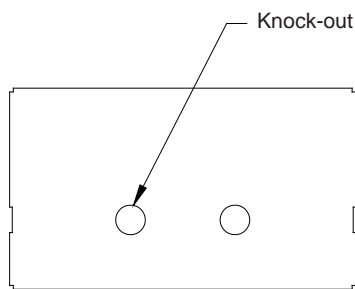

Figure 3A
Cable may be routed into the curtain machine through the slots provided on each side of the unit or through (2) knock-outs on the top of the unit. See Figure 3A and 3B.